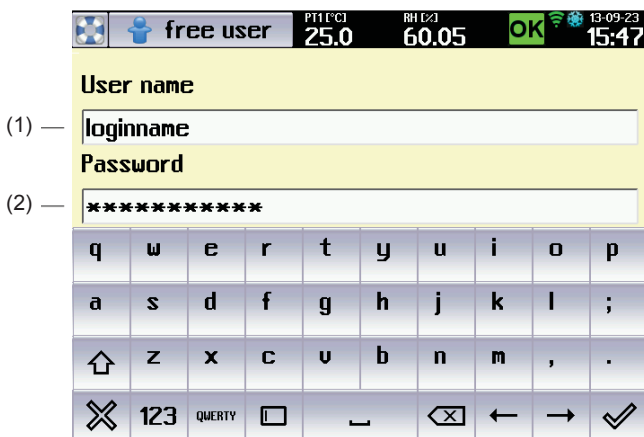

Fig. 34
- When creating an e-mail account, the user obtains a unique name and password for his/her account. Enter the data to positions (1) and (2), Fig. 34.